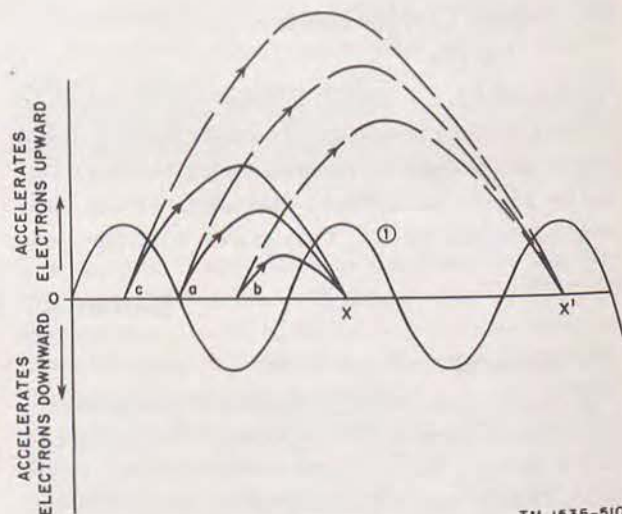

Figure 43. Operating characteristics of klystron oscillator.
*c. Bunching.* Since the bunching grids are attached to the cavity, the electric field about the grids varies at the same frequency as the cavity (1, fig. 43). The effect upon an electron shot through the bunching grids depends on the arrival time of the electron with reference to the varying field about the bunching grids.
*Note.* The graph in figure 43 is not drawn in terms of voltage, but in terms of the effect of the field upon an electron: a positive variation on the graph indicates the field is in such a direction as to accelerate an electron upward; a negative variation indicates the field is in such a direction as to accelerate an electron downward.
- (1) An electron arriving at the grids when the field is changing from an upward accelerating field to an upward decelerating one (point a) is unaffected by the bunching grids. The electron continues until it is repelled by the negative reflector voltage and returns to the grids when the field about them is as shown at point x.
- (2) An electron reaching the grids is retarded when the field is as shown at point b. Consequently, it does not travel as far as the first electron before being repelled by the reflector field. But since it starts out after the previous electron, both reach point x simultaneously.
- (3) An electron arriving at the grids is accelerated when the field is as shown at